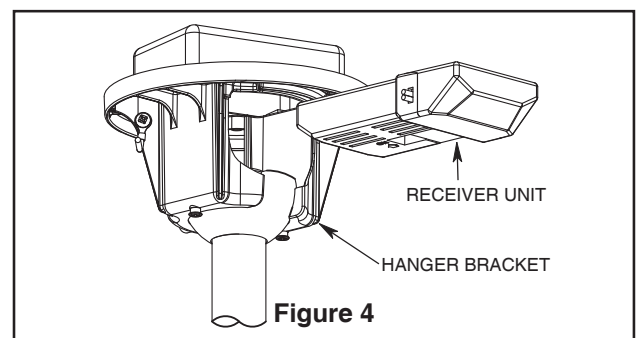

Figure 4
- ☐ 2. Carefully lift the fan and seat the downrod/hanger ball assembly on the hanger bracket that was just attached to the outlet box. Be sure the groove in the ball is lined up with tab on the hanger bracket (Figure 4).
- ☐ 3. Slide the receiver unit into the open end of the hanger bracket (Figure 4).